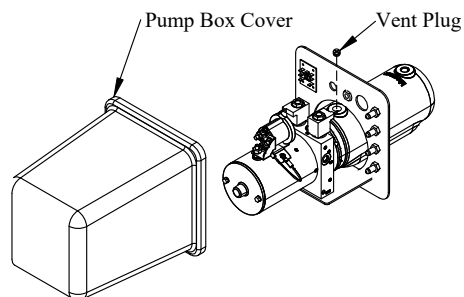

Figure 18: Pump reservoir vent plug.
11. **Verify** that the vent plug is installed in the pump reservoir (Figure 18).
5. **Install** the 2GA power cable from the mounting kit on the power unit (Figure 18).